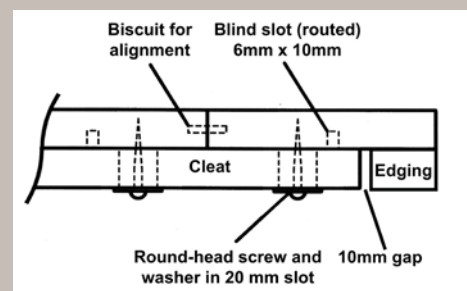

Figure 1: How to apply cross-grain cleats
Step 3: Mitre the edges of the strips and glue them onto the underside to make the table appear more substantial. Be careful not to rotate any of the pieces – they must maintain their original orientation. Depending on the size of the panel you may want to add intermediate cross-grain cleats as shown in figure 1.